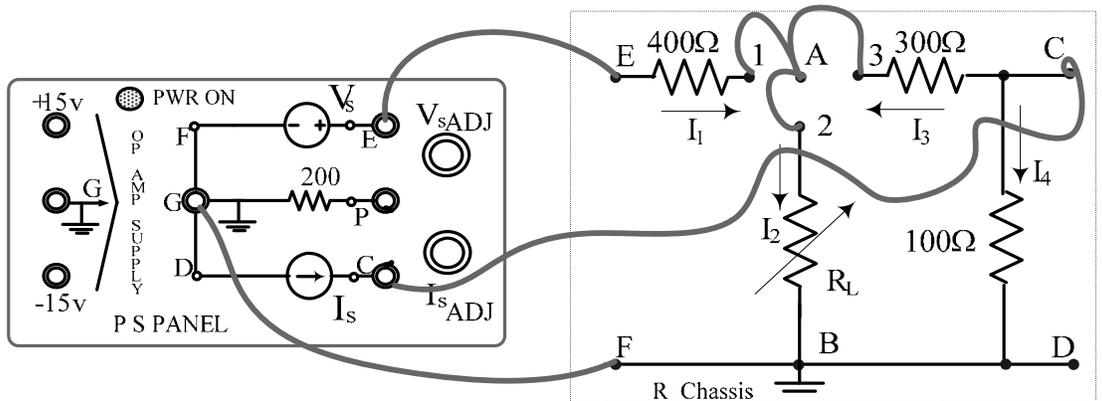

Figure 1.12
1. **Make sure that the PSP is turned OFF.** Make the patchcord connections shown in Figure 1.12 between the PSP and the R-Chassis using banana-plug patchcords of appropriate lengths and colours*